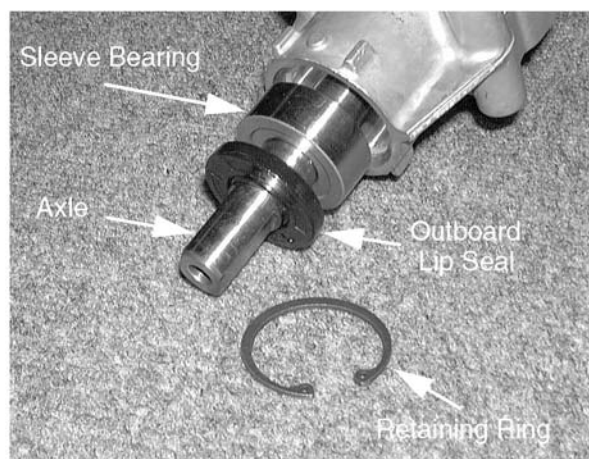

**Figure 6-74**
13. Align the pump block up with the center section and install the input shaft. See Figure 6-74.